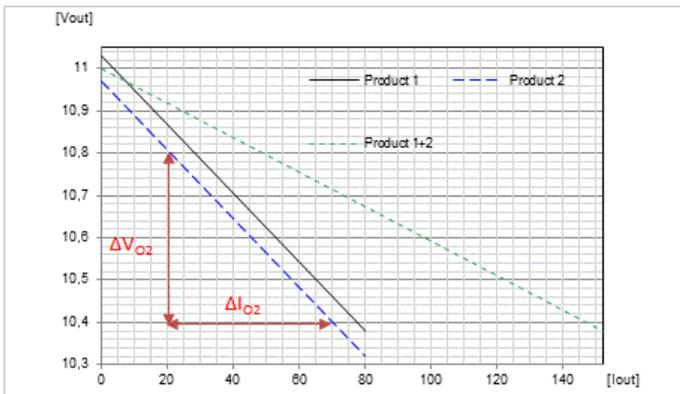

Figure 1: Typical output current from two products with 60mV output voltage initial setting tolerances but with equal output resistance.
Passive current sharing is achieved by having a droop load share, i.e. the output voltage of the product will decrease when the load current is increased, see figure 1.
In the example both products have the same output resistance,  $R_O = R_{O1} = R_{O2}$ , since the slopes are constant and parallel.  $R_O$  can be estimated directly from figure 1 by using product 2 as shown in equation 1:
**Note** that when the products are connected in parallel they will share the same output voltage. Only the output current will differ, e.g. from figure 1 at 10.8V, product 1 delivers 28A and product 2 delivers 2 A, approximately.